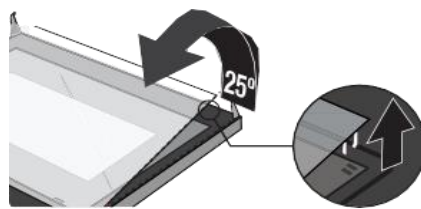

Figure 4
2. Carefully separate the glass by lifting it by about 25°. (Figure 4)